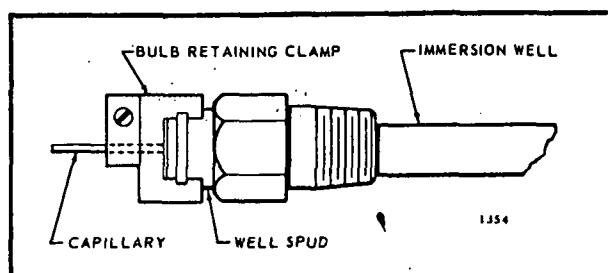

FIG. 8-IMMERSION WELL ASSEMBLY.
4. Fit bulb retaining clamp over immersion well flange and capillary tubing, and tighten screw, as shown in Fig. 8.